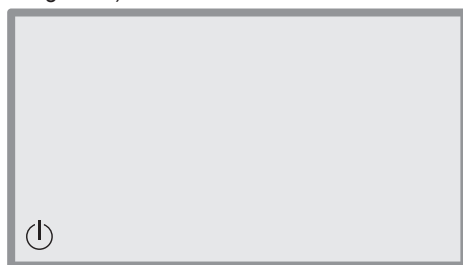
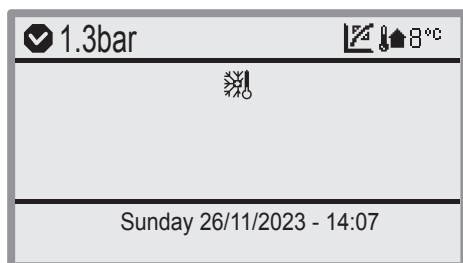

Fig. 7.15
Fig. 7.16
- Electrically power the boiler by switching on the double pole isolation switch. The LCD will display the boiler status (Fig. 7.15 or Fig. 7.16).
- Switch off the boiler by pressing the 12 (Fig. 7.17) key for 5 seconds until the  symbol appears on the LCD display (Fig. 7.15).